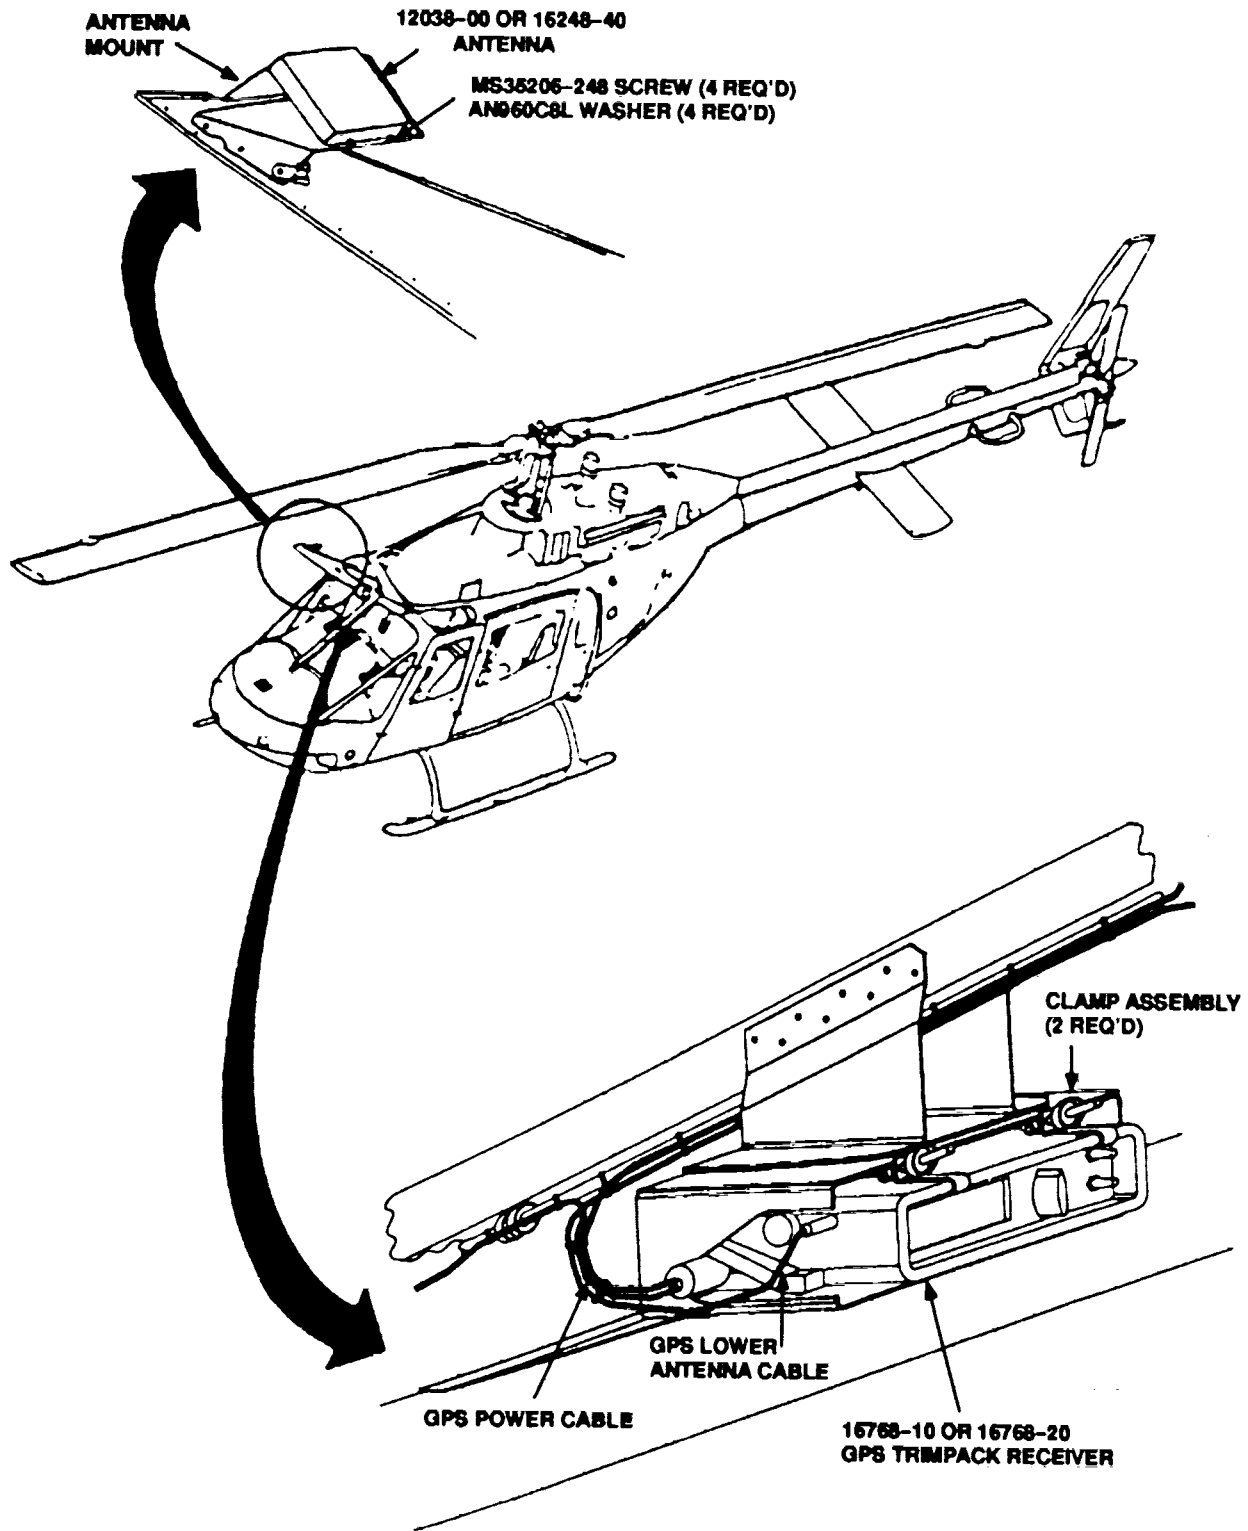

Figure 6. GPS Antenna and Trimpack Receiver Installation.
- c. Install GPS antenna on mount (Figure 6).
- d. Secure with four screws (P/N MS35206247) and four washer (P/N AN960C8L) (Figure 6).
- f. Install GPS Trimpack receiver in mount and secure with clamp assemblies (Figure 6).
- g. Connect power and antenna cables to receiver (Figure 6).